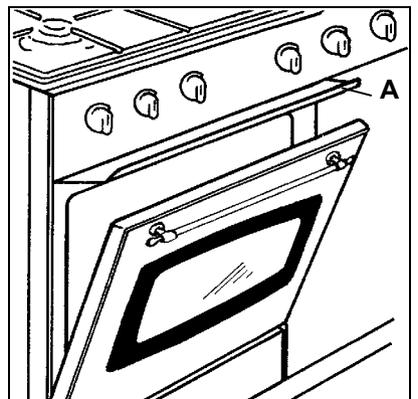

fig. 5
**When grilling, the accessible parts of the appliance are hot and the appliance should not be left unsupervised. Take care that children do not play near it. While the grill is operating leave the oven door half open and put the grill deflector "A" into place (fig. 5). During use the appliance becomes hot. Care should be taken to avoid touching heating elements inside the oven, or the grill deflector.**